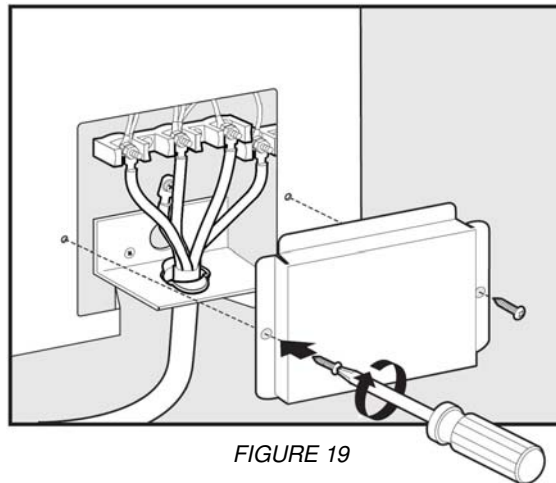

FIGURE 19
**ACCESS COVER INSTALLATION:** Replace the terminal block access cover (See figure 19).